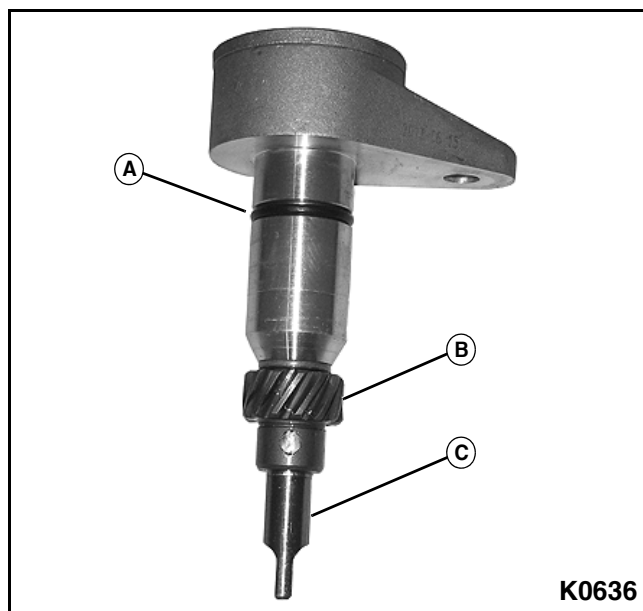

Figure 3-105
1. Inspect condition of oil pump drive sealing O-ring (A). **See Figure 3-105.**
2. Inspect condition of gear teeth (B) for wear or damage.
3. Inspect condition of oil pump drive shaft (C) for wear or damage.